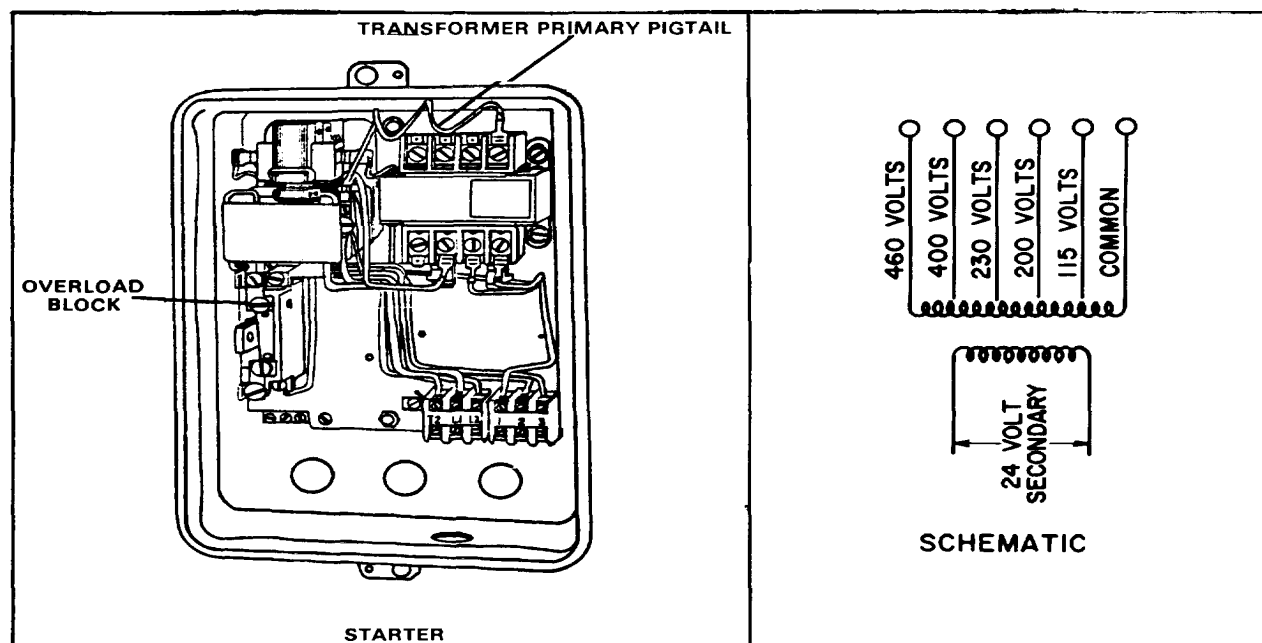

Figure 31. - Changing Voltage
STEP 3 - Change the heater elements in the overload block, Fig. 31, for the proper voltage/ampere rating shown on the motor nameplate.